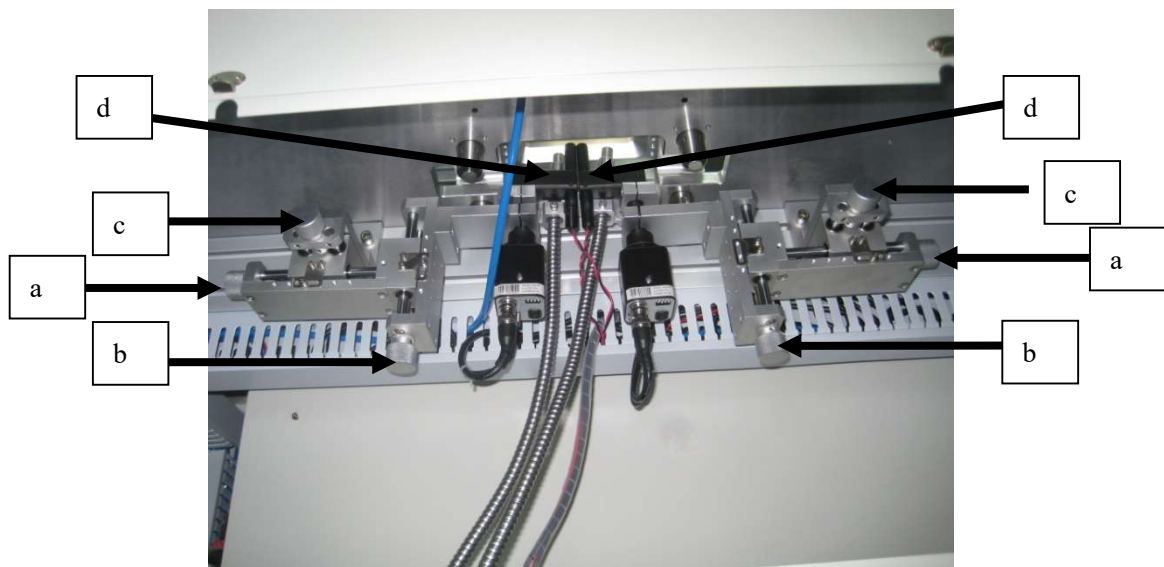

Figure 3.0
- 5.1. Rotate knob "a" and camera support will move left and right (Figure 3.0)
- 5.2. Rotate knob "b" and camera support will move up and down. (Figure 3.0)
- 5.3. Rotate knob "c" and camera support will move back and forth. (Figure 3.0)
- 5.4. Move cameras in camera support "d" to change camera position. (Figure 3.0)